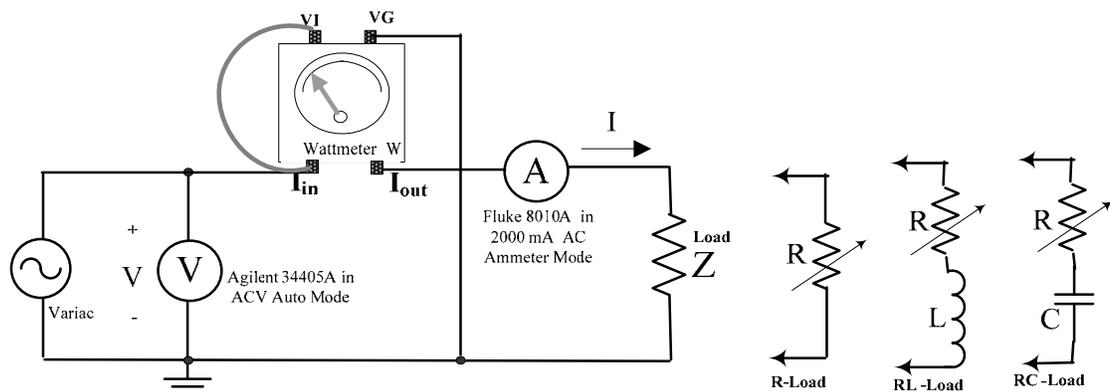

Figure 5.3 : Circuit for power measurements
POWER MEASUREMENTS: In this part of the experiment, measurements are made on three specific loads: (1) a ‘resistive’ load $Z = R$, (2) an ‘inductive’ load, with the two elements of the RL-box connected in series, $Z = R + j\omega L$, and (3) a ‘capacitive’ load, with R from the RL-box and C from the C-box connected in series, $Z = R + (1/j\omega C)$. The general circuit shown in Figure 5.2 is used **with appropriate modifications to the manner in which the RL-box and C-box are connected.** The circuit for power measurements is shown in Figure 5.3. The circuit is the schematic equivalent of that shown in Figure 5.2, but the load is shown as a general impedance Z .
2. **RESISTIVE LOAD:** Set up the circuit of Figure 5.3 with the R load. {This can be achieved in Figure 5.2 by disconnecting the C-box at the RL-load end, and then altering the RL-load connections so that only R is connected }
3. **INDUCTIVE LOAD:** Set up the circuit of Figure 5.3 with the RL load [R and L in series , so that $Z = R + j\omega L \approx R + j 75.4$, Ohms.] {This can be achieved in Figure 5.2 by simply disconnecting the C-box at the RL-load end }
4. **CAPACITIVE LOAD:** Set up the circuit of Figure 5.3 with an RC load [R from the RL-box and C from the C-box in series , with all switches toggled upwards so that so that $C = 40\mu\text{F}$, $Z = R - j / \omega C \approx R - j 66.3$, Ohms]. {This can be achieved in Figure 5.2 by simply removing the central (green wire)link between the R & L element on the RL-load box and moving the (blue wire) lead from the capacitor to the other R terminal }